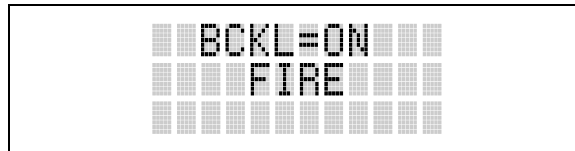

Figure 8-8: Backlight Menu Display
- Press **M**. The backlight menu item is activated. Line one shows the active menu item and its current parameter setting. Line two shows the currently selected system or group name (see Figure 8-8).